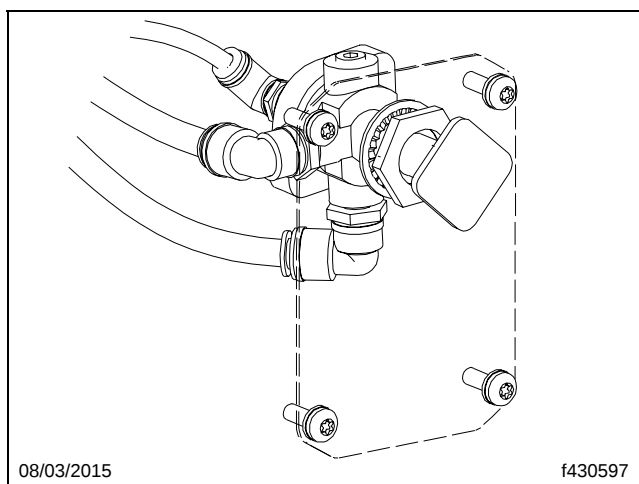
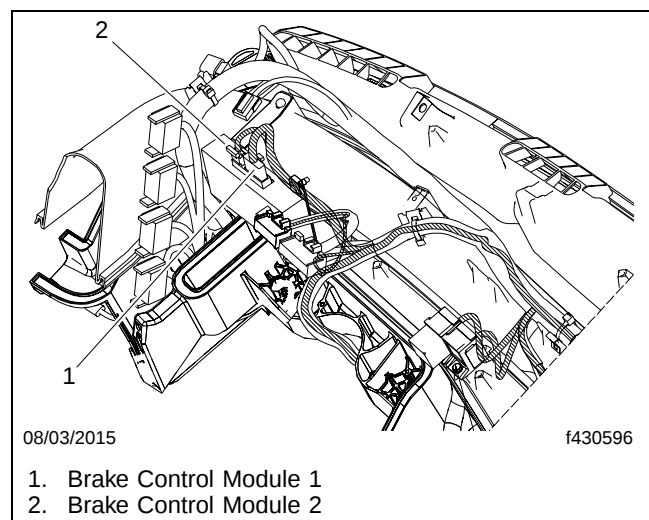
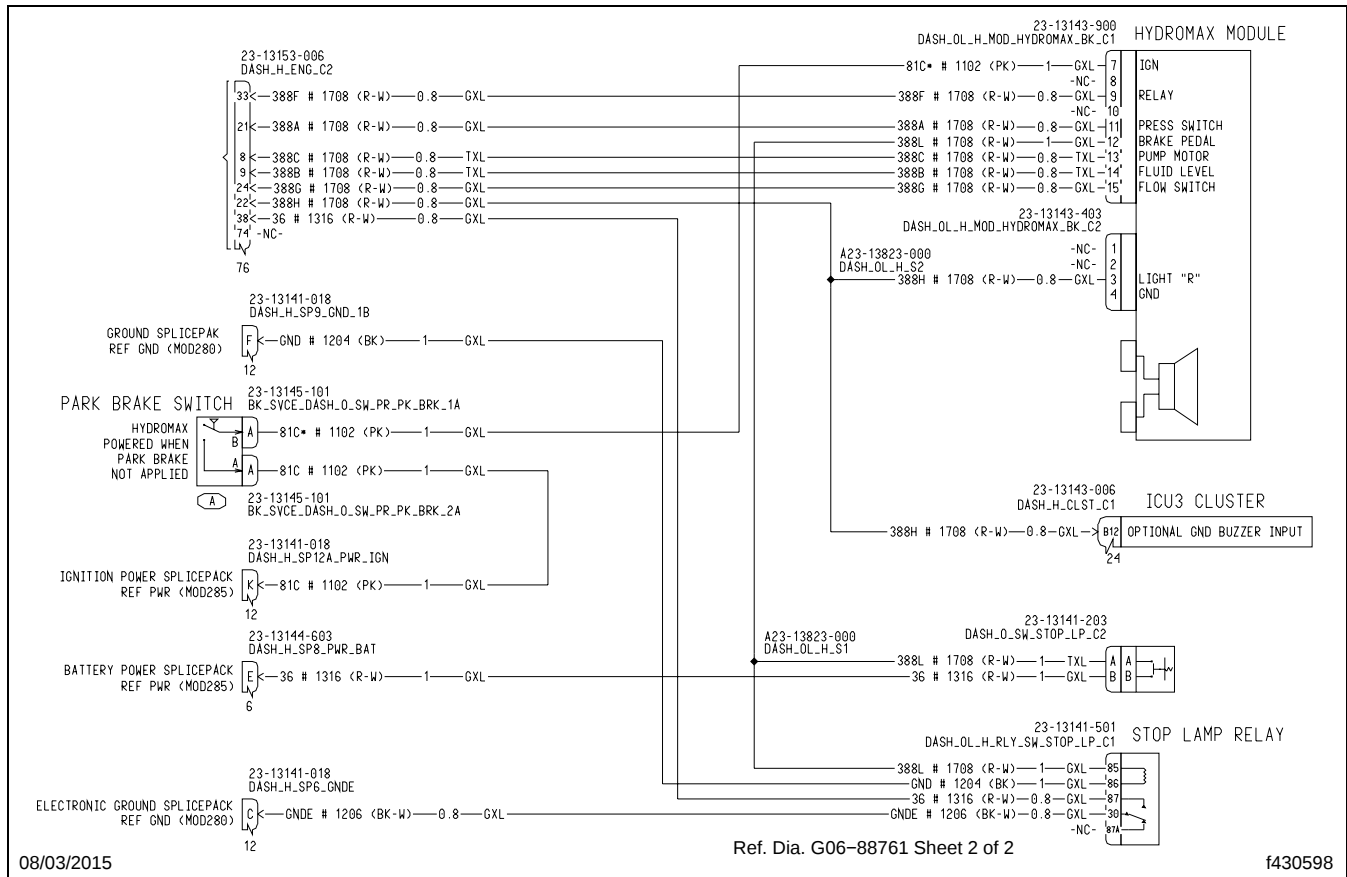

Fig. 1, Park Brake Valve
Fig. 2, Hydromax Brake Control Modules
Fig. 3, Park Brake Interlock Switch Schematic
5. Remove the dash panels to gain access to the air switches located by the park brake valve. See **Fig. 1** and **Fig. 2**.
6. Using **Fig. 3**, trace wire 81C* back from the Hydromax module to the park brake valve shown in **Fig. 1**.